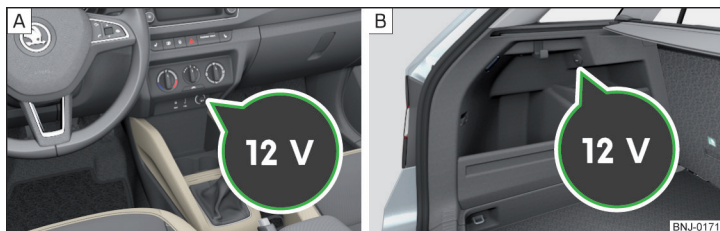

Fig. 77 Cover for the 12-volt socket: in the middle part of the dash panel/in the luggage compartment
Overview of the 12-volt power socket » Fig. 77
- Remove the cover on the power socket » Fig. 77 - A or open the cover on the power socket as appropriate » Fig. 77 - B.